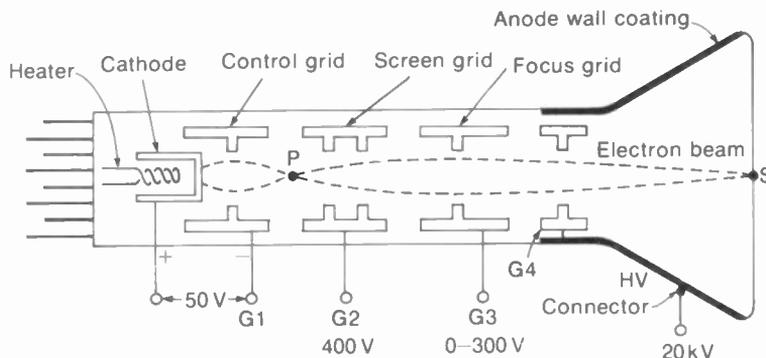
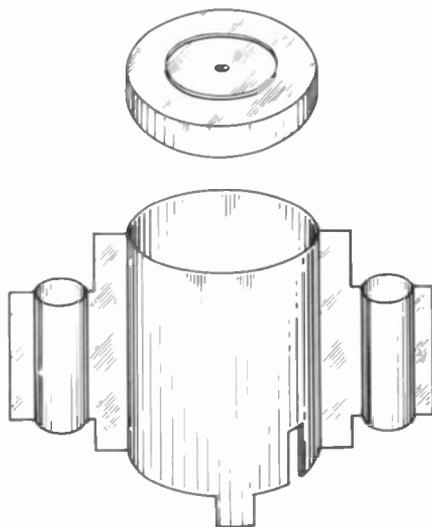

FIGURE 10-4 ELEMENTS OF AN ELECTRON GUN WITH LOW-VOLTAGE ELECTROSTATIC FOCUSING.
FIGURE 10-5 CONTROL-GRID CYLINDER WITH APERTURE DISK. DIAMETER IS  $\frac{3}{4}$  IN.
The electron gun in Fig. 10-4 includes a heater, cathode, control grid G1, screen grid or accelerator G2, and focusing grid G3. Each grid structure is a metal cylinder with a small aperture or hole in the center. Figure 10-5 shows a control-grid cylinder and disk cover with an aperture of 0.04 in. The electrodes are generally made of
**Low-voltage focusing.** The focusing grid, which is usually G3, has 0 to 300 V. This is shown in Fig. 10-4. The electron beam is focused because of deceleration when the G3 voltage is less than the G2 voltage. Most monochrome picture tubes use this method.